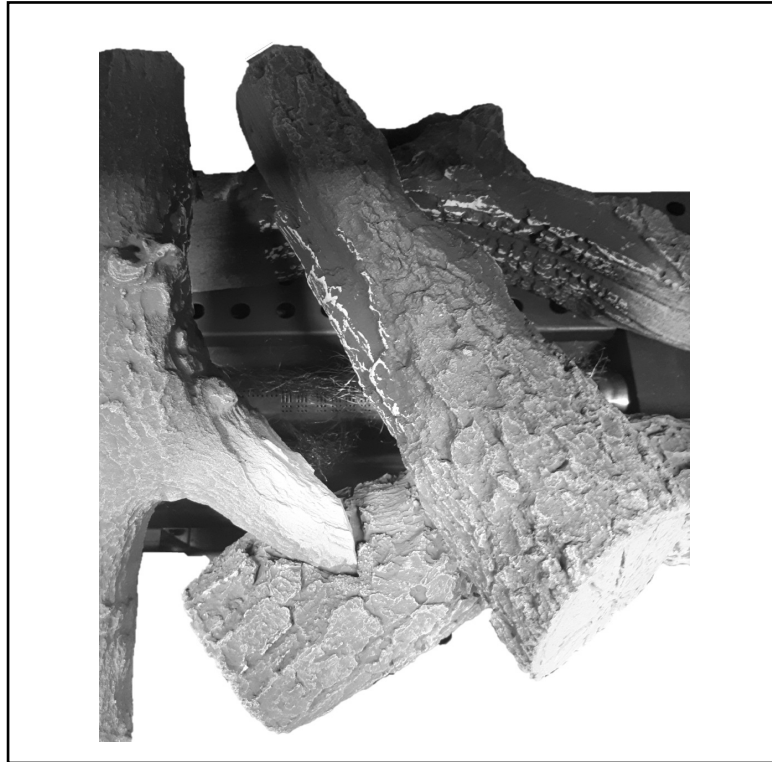

Fig. 9
6. Place Log '6' so that it is resting on Log '4' and to its rear on Log '1' as shown in fig.9.
9. Place Log '9' so that it is resting on Log '3' and to its rear on Log '2' as shown in fig.9.
Note: Ensure that there is a gap maintained between log '8' and log '9' as shown in fig.9.